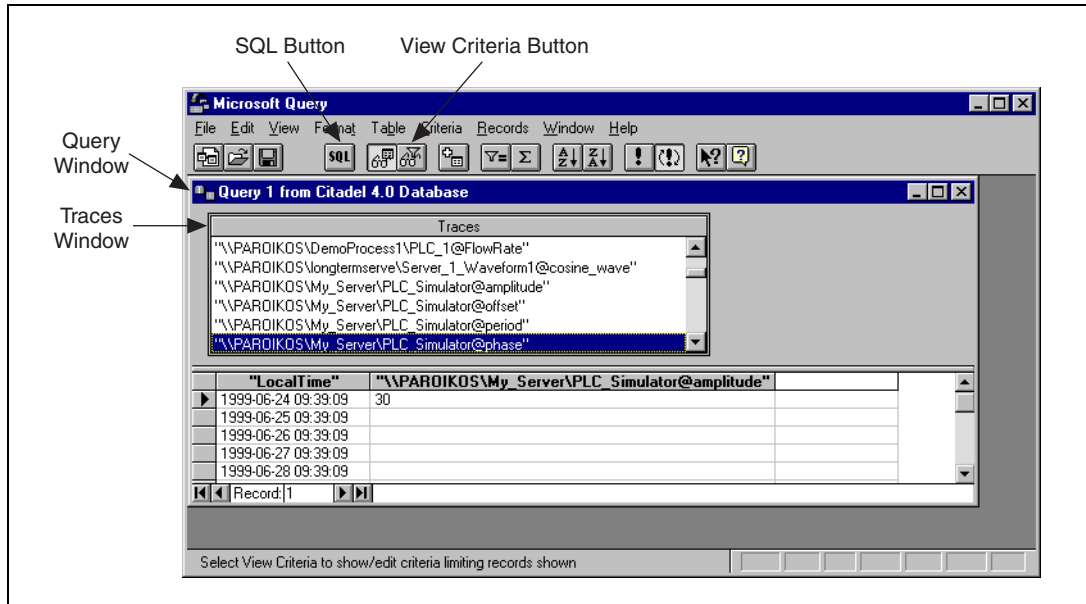

Figure A-1. The Query Window with Traces Table
6. To view a trace, double-click or drag the field you want to view to a blank column in the data pane. In Figure A-1, `LocalTime` and `"\\PAROIKOS\My_Server\PLC_Simulator@amplitude"` have been dragged down.
The data set in Figure A-1 was retrieved using no specific criteria, so the ODBC driver used the default. Although there are several ways to specify criteria, this example uses the criteria pane.